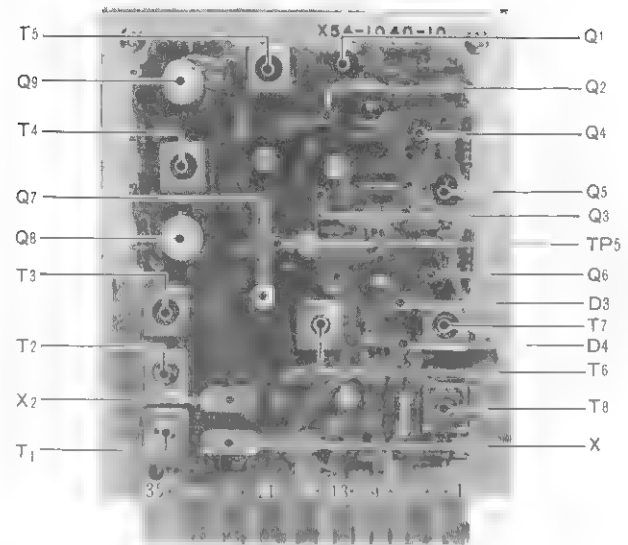

FIGURE 20. NB Board
5.6 NB (Noise Blanker) BOARD (X54-1040-10) (See Figure 20)